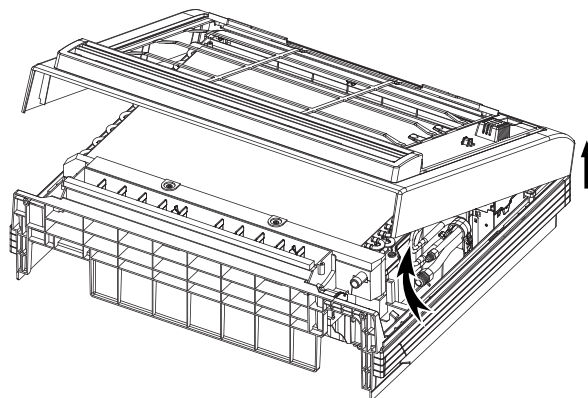

Fig.7-3
- Opening bottom of face plate for a angle that is 30 degrees, then the top of face plate will be take up. (Refer to Fig.7-3)